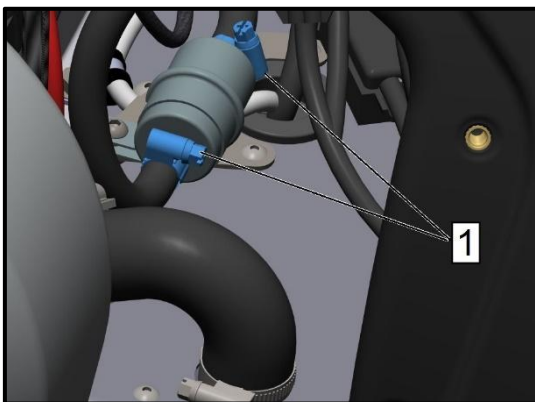

Fig. 15
7. Loosen and replace the two clamps (position 1, figure 15) on the hose connected to the fuel filter with a 7 mm slotted screwdriver or end screwdriver.